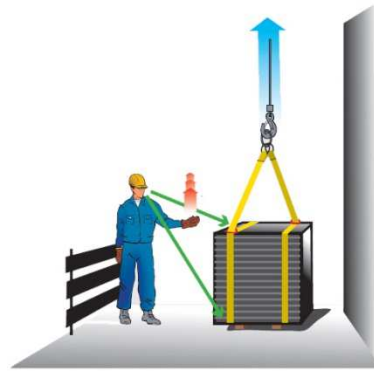

Fig. 5.3-11 - "Slowly downward" sign
- *Check that the harness corresponds to what is required (both when all the required active sections come into action, and as a general seal) and the proper balancing of the load, by slowly and slightly raising the load (Fig. 5.3-11);*